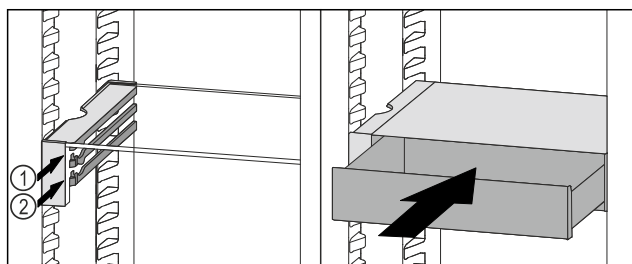

Fig. 132
- ▶ Place the VarioSafe drawer behind the stoppers on desired rib *Fig. 132 (1)* or *Fig. 132 (2)*.